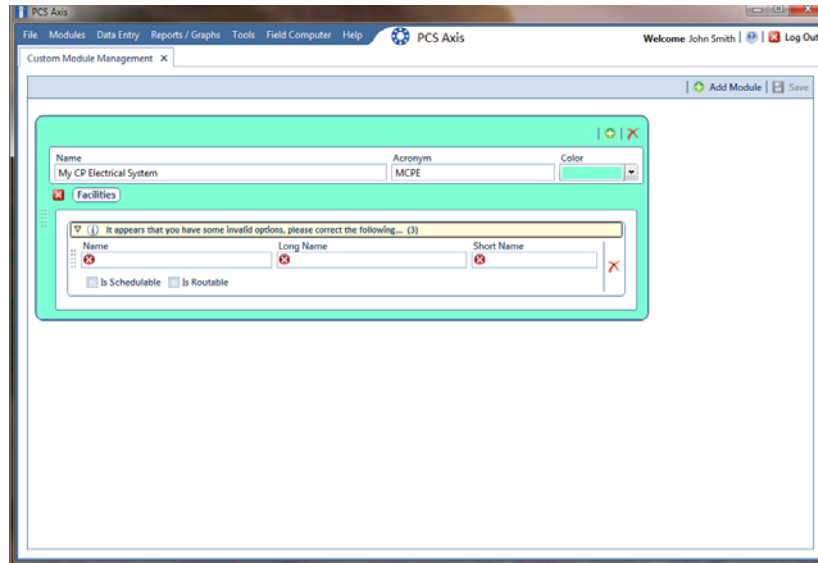

Figure 3-76. Custom Module Management
- 3 To set *Name*, *Acronym*, and *Color* properties for the user defined module, follow these steps (Figure 3-76):